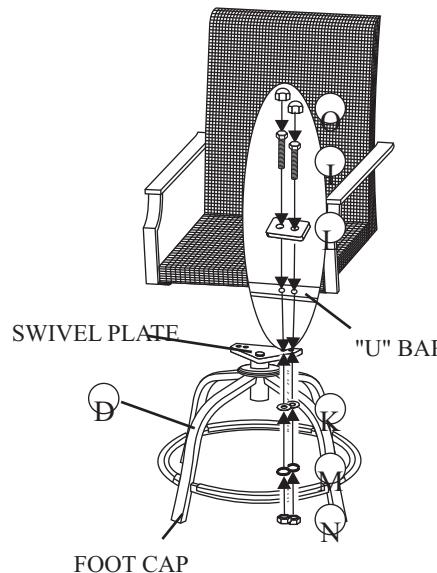

Fig. 3
Step 7: Carefully examine the **Fig. 3**. Attach a metal plate to two (2) bolts and guide the bolts through the top of one set of holes in the "U" bar (located at the bottom of the chair frame) and into the pair of holes in the swivel plate. From beneath the swivel plate, add a washer, then a spring washer and a nut to the end each bolt. Hand tighten only. Repeat procedure for pair of holes on the opposite side. Again, hand tighten nuts only. Do not tighten nuts completely.